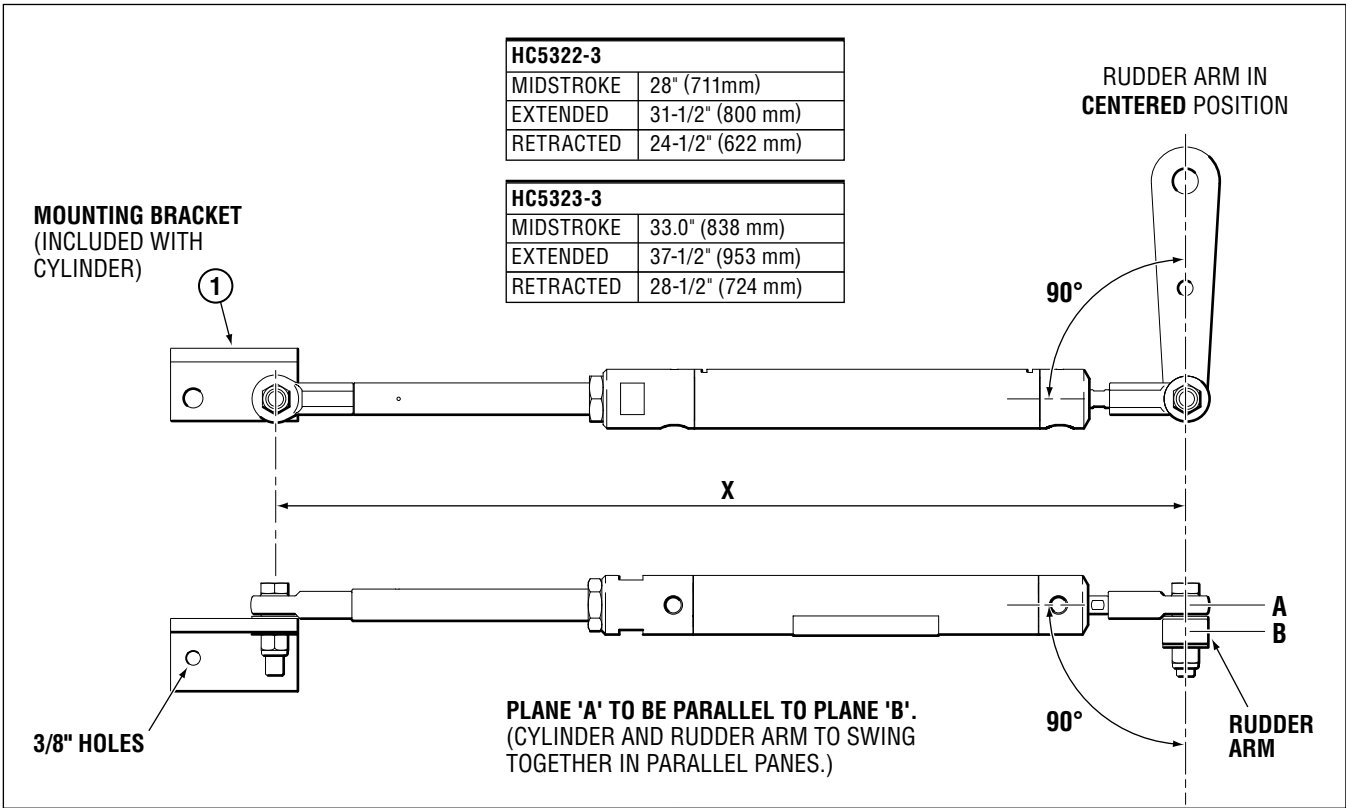

Figure 8. Correct Cylinder to Rudder Arm Mounting Orientation.
- 2** To achieve **MAXIMUM** performance, cylinder is to be mounted at a right angle (90°) to the rudder arm when in the center position (refer to Figure 8 below).
- 5 Place rudder in midstroke position and extend cylinder to mid stroke (see Figure 8).
- 6 Temporarily install the other rod end into the mounting bracket (item 1, Figure 8). Using the bracket as a template, mark off the positions of the two 3/8" holes on the mounting surface.
- 8 Mount the bracket (item 1, Figure 8) with through bolts, washers and nuts (not supplied by Teleflex). **DO NOT USE LAG BOLTS.**